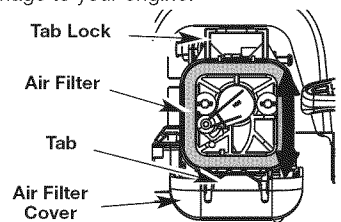

Fig. 25
- Open the air filter cover. Push the locking tab on the top of the cover inward, then pull the air filter cover out and down. (Fig. 25).
- Remove the air filter (Fig. 25).
- Replace the filter (Fig. 25).
- Reinstall the air filter cover. Position the slots on the bottom of the air filter cover onto the tabs at the bottom of the back plate (Figs. 25).
- Swing the cover up until the tab on the air filter backplate snaps into place in the slot on the air filter cover (Fig. 25).